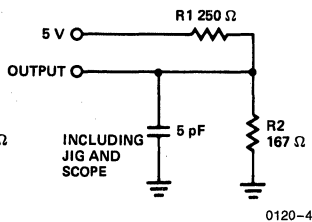

Figure 1b
8.  $t_{HZCS}$  is tested with load shown in Figure 1b. Transition is measured at steady state High level  $-500\text{ mV}$  or steady state Low level  $+500\text{ mV}$  on the output from the 1.5V level on the input.